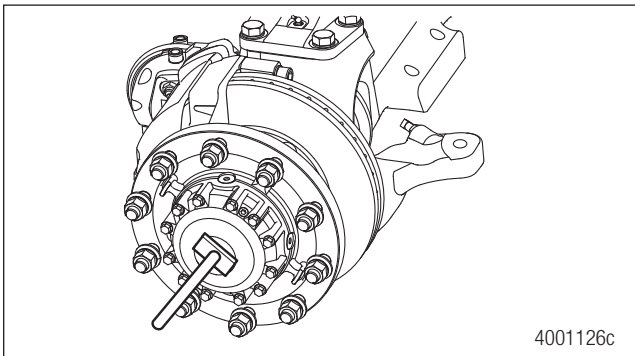

Figure 5.3
13. Remove the wheel end plug cover. Install the axle shaft removal tool (part number 3256-B-1016). See Axle Shaft Removal Tool (3256-B-1016) on page 74. Figure 5.3.